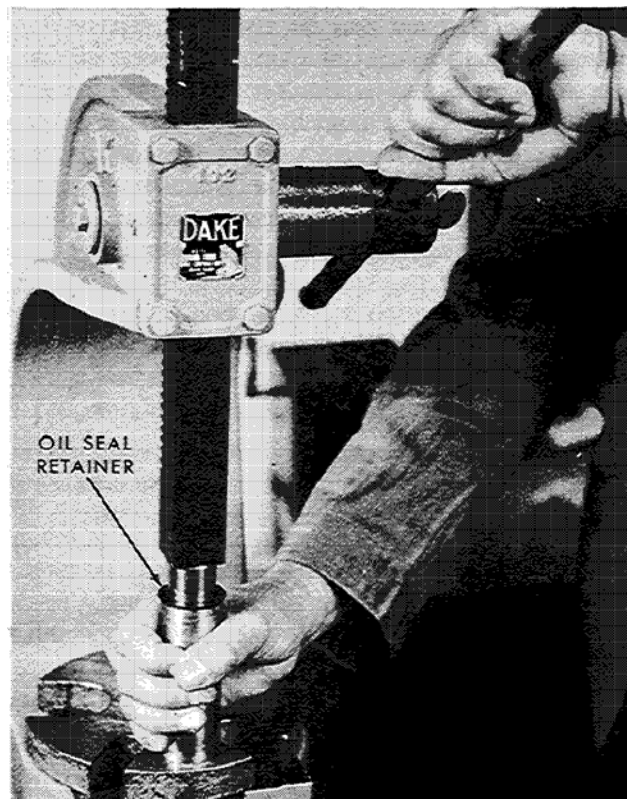

Figure 3-4
5. Remove screws (53) and retainer (52). Take out drive shaft (51) and items (46) through (50). Remove drive shaft oil seal (47) as shown in Figure 3-4.